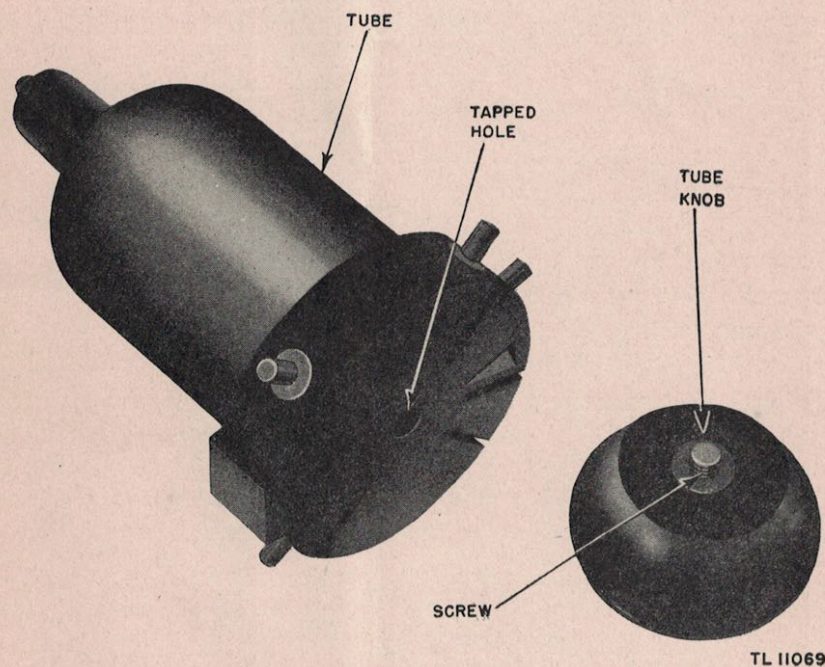

Figure 7. German radio tube type RV12P2000 used in German radio set Fusprech.a.
h. To remove any tube not having a knob, unscrew a knob from another tube and screw it into the hole in the base of the tube to be removed (fig. 7). Be sure that no knobs are left on any of the tubes on the top of the chassis when the chassis is replaced in its case.